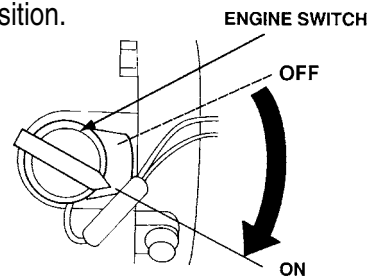

Figure 15. Engine ON/OFF Switch (ON Position)
5. Place the engine ON/OFF switch (Figure 15) in the "ON" position.